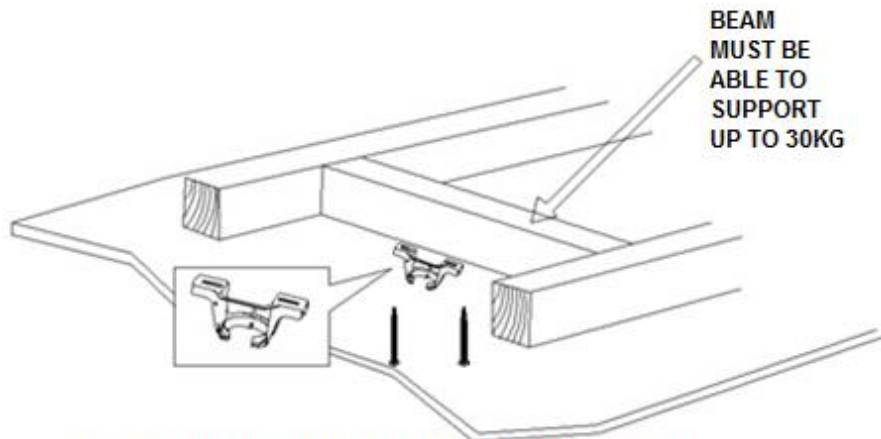

Fig. 2
- Install the mounting bracket to the ceiling joist or structure that is capable of carrying a load of at least 30kg, with the two long screws provided. Ensure at least 30mm of the screw is threaded into the support. (Fig. 2)